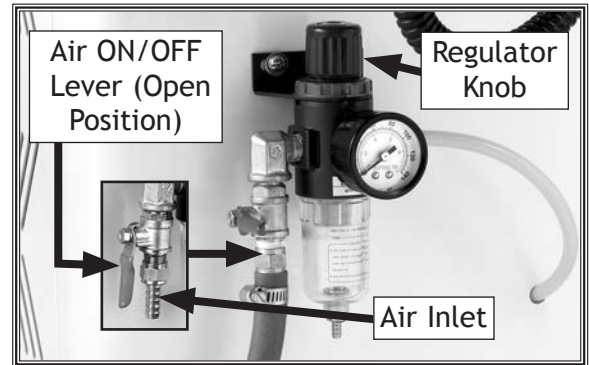

Figure 8. Air hose attached to regulator.
1. Connect air inlet on regulator (**Figure 8**) to compressed air line.